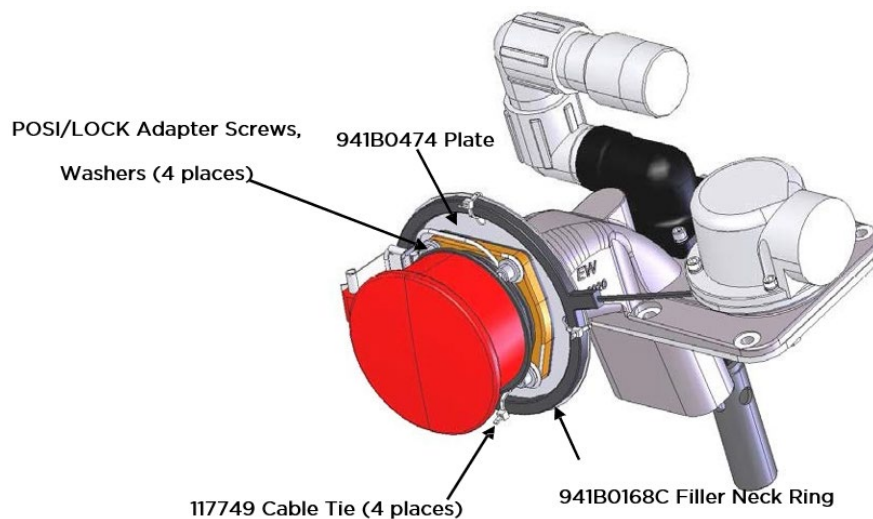

Figure 4. POSI/LOCK with a Cap with 941B0168C Filler Neck Ring Installed
1. Remove the four screws and washers which attach the POSI/LOCK adapter to the POSI/LOCK filler neck housing (Figure 4).